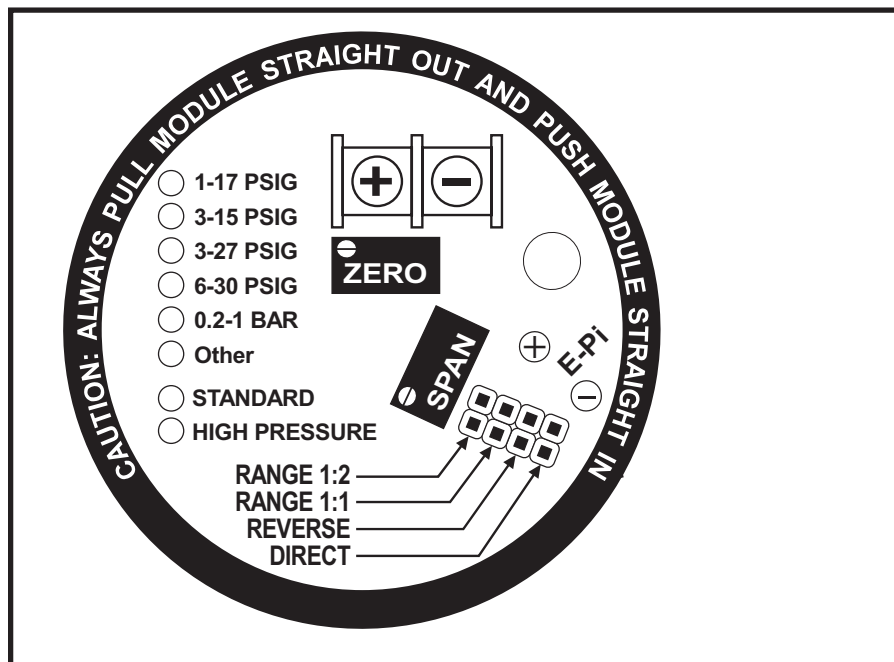

Figure 4 - Jumper Selection
2.1.1 Programming is selectable via internal jumpers located on the circuit board. To access, remove the Cover. A label located on the E-Pi Module shows the location and position of these jumpers. See Figure 4.